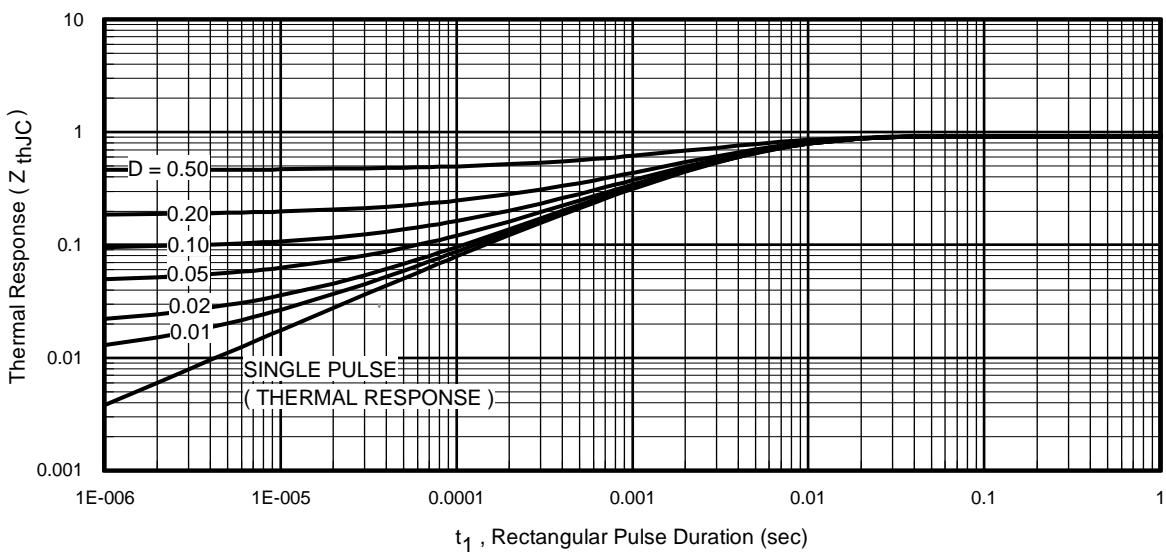
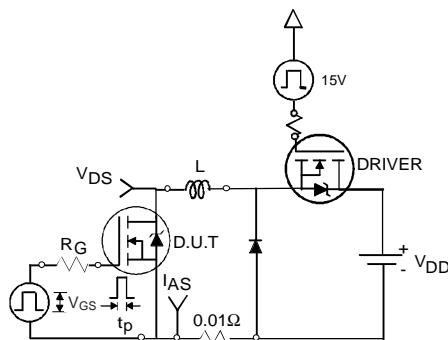

Fig 11. Maximum Effective Transient Thermal Impedance, Junction-to-Case
Fig 12a. Unclamped Inductive Test Circuit
- ① Repetitive rating; pulse width limited by max. junction temperature. (See fig. 11).
- ② Limited by $T_{J\text{max}}$, starting $T_J = 25^\circ\text{C}$, $L = 0.27\text{mH}$, $R_G = 25\Omega$, $I_{AS} = 35\text{A}$, $V_{GS} = 10V$. Part not recommended for use above this value.
- ③ $I_{SD} \leq 35\text{A}$, $di/dt \leq 380\text{A}/\mu\text{s}$, $V_{DD} \leq V_{(\text{BR})\text{DSS}}$, $T_J \leq 175^\circ\text{C}$.
- ④ Pulse width $\leq 1.0\text{ms}$; duty cycle $\leq 2\%$.
- ⑤ $C_{oss \text{ eff.}}$ is a fixed capacitance that gives the same charging time as C_{oss} while V_{DS} is rising from 0 to 80% V_{DSS} .
- ⑥ Limited by $T_{J\text{max}}$, see Fig.12a, 12b, 15, 16 for typical repetitive avalanche performance.
- ⑦ This value determined from sample failure population. 100% tested to this value in production.
- ⑧ This is applied to D²Pak, when mounted on 1" square PCB (FR-4 or G-10 Material). For recommended footprint and soldering techniques refer to application note #AN-994.
3. Equation below based on circuit and waveforms shown in Figures 12a, 12b.
- $Z_{thJC}(D, t_{av})$ = Transient thermal resistance, see figure 11)